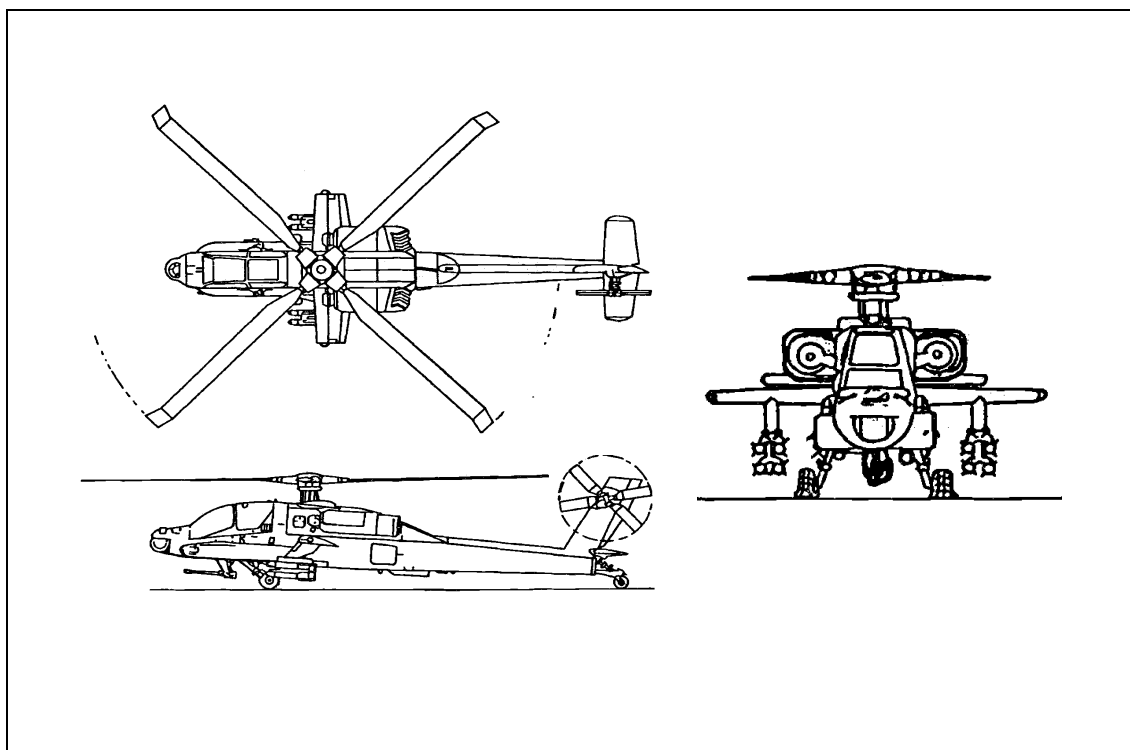

Figure B-4. AH 64A (Apache).
b. **AH 64A (Apache).** Table B-4 shows specifications for the AH 64A Apache; Figure B-4 shows the aircraft from three angles: